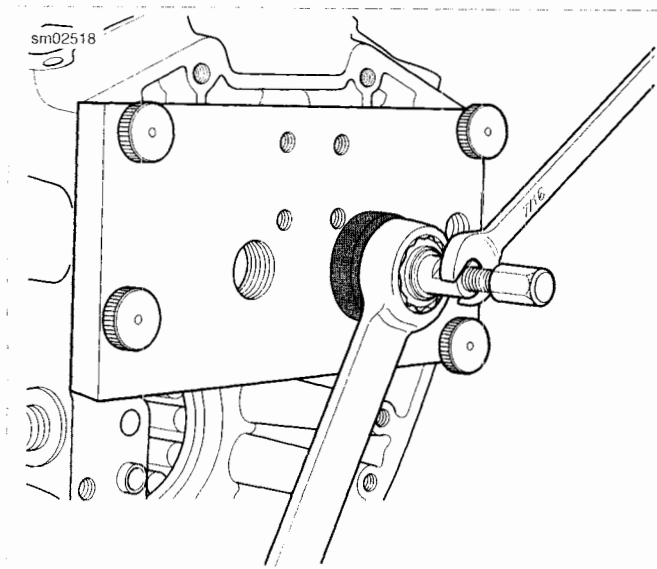

Figure 3-133. Bearing Removal
11. See Figure 3-133. Using a 15/16 in. open end wrench, turn hex nut in a clockwise direction until bearing is free. If necessary, hold flat on collet to prevent rotation.